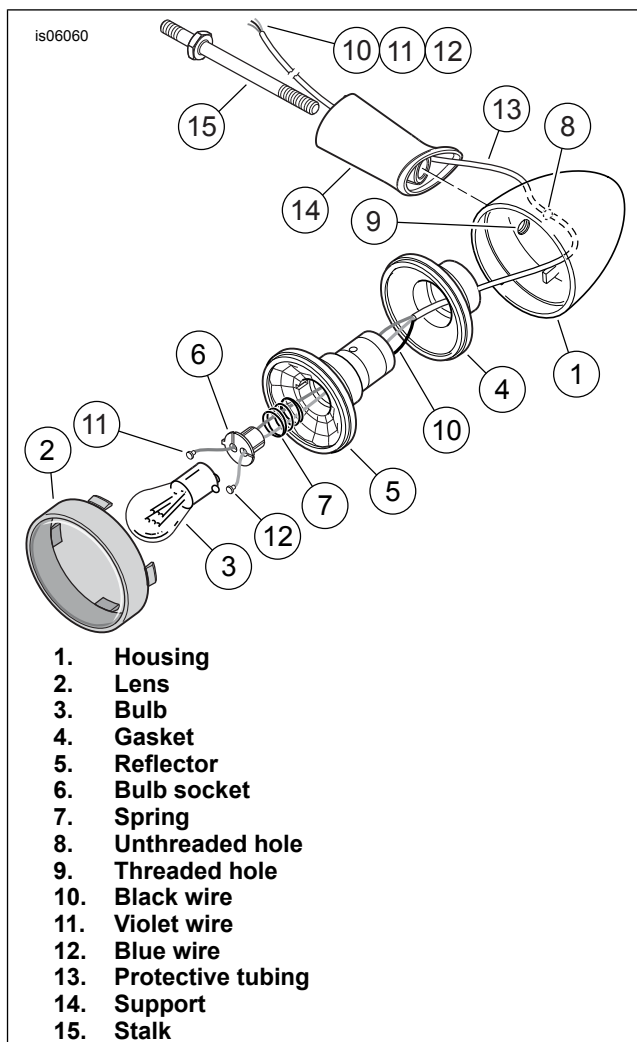

Figure 1. Tail/Stop/Turn Signal Lamp
2. See Figure 1. Unscrew and remove the turn signal stalk (15) from one of the turn signal lamps, and discard. Remove and **retain** the turn signal lamp and support (14) from the rear fender support cover.
7. See Figure 1. Route the wires (10, 11, 12) and protective tubing (13) from the reflector/bulb socket assembly through the center of the rubber gasket (4) and out through the **unthreaded** hole (8) in the lamp housing (1).